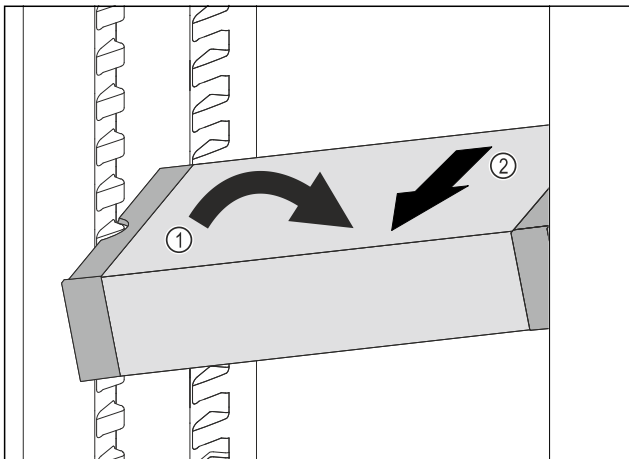

Fig. 95
- ▶ Set VarioSafe in refrigerator compartment at an angle. Fig. 95 (1)
- ▶ Take VarioSafe out to the front. Fig. 95 (2)